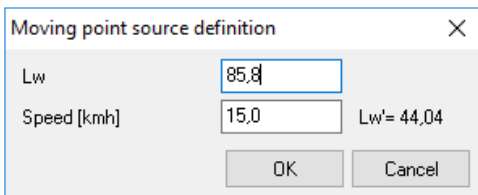

Fig 3 Use the pocket calculator to work out the sound power level per meter line source
L'_{WA} is easily worked out with the small pocket calculator in the property window of the line source object type (Fig 3). When a sound power level per m is inserted for a line source, SoundPLAN automatically works out the total sound power level by adding $10 \times \log(l)$, which is exactly what is requested, see the bracket in equation (4).
Example: A fork lifter runs daily (from 7 am to 3 pm) 30 times per hour from A to B and back to A except during 30 min lunch break. Unit sound power level $L_{WA} = 85,8$ dB (like record #16 in the system lib), and driving speed 15 km/h, see Fig 3 and 4.